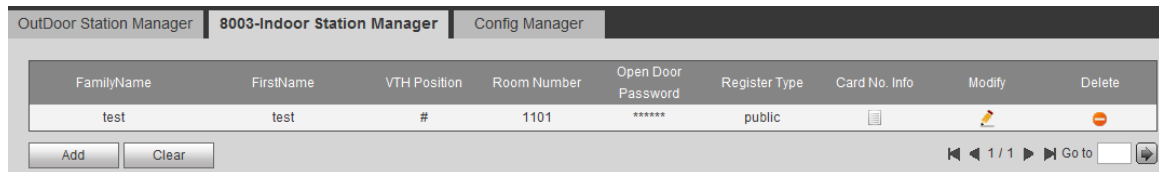

Figure 4-12
Step 6. Click OK, to complete VTH, see Figure 4-12.